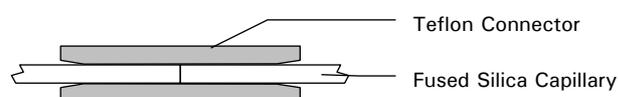

FIGURE 2-44 Connecting Fused Silica Capillaries
- Connect the column outlet to the flow cell inlet using a Teflon connector (Nano and Pico columns, FIGURE 2-44) or a fingertight fitting (Microbore columns).
- d) Connect the column outlet to the flow cell inlet using a Teflon connector (Nano and Pico columns, FIGURE 2-44) or a fingertight fitting (Microbore columns).